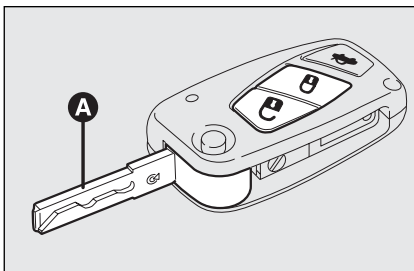

fig. 14
**IMPORTANT** When operating the central door locking with the metal insert **A**-**fig. 14** of the key, the alarm is not activated.